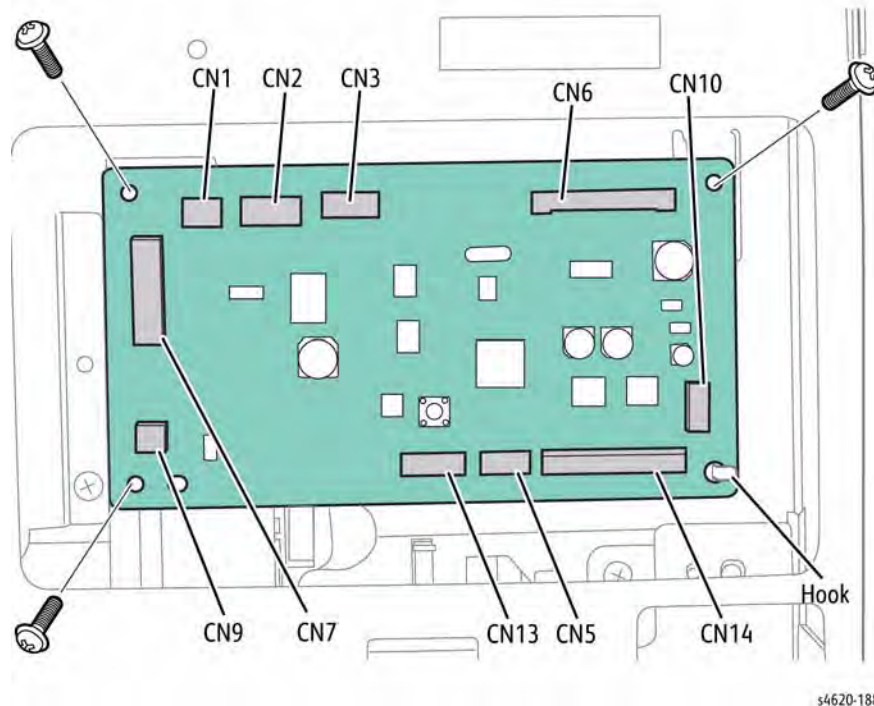

Figure 1 Remove the Feeder Board
3. Disconnect 8 connections and remove 3 screws (metal) that secure the Feeder Board, Figure 1.